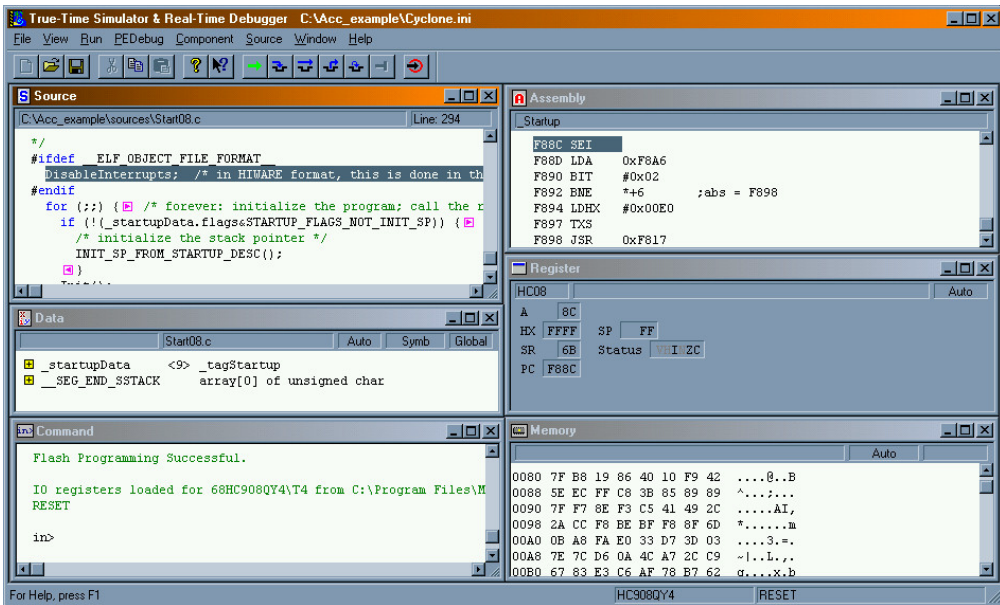

Figure 1-23. True-Time Debugger Window — Successful Programming
29. The CPROG08S7 Programmer window appears as the programming script erases and reprograms the FLASH memory. Follow the instructions in the window and click OK as requested. The Command window in the True-Time Debugger indicates that the FLASH programming was successful. See Figure 1-23.